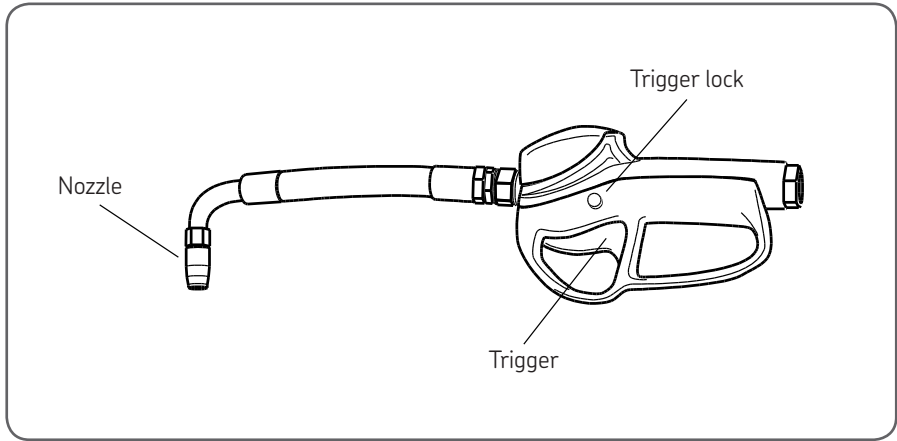

Fig 27 Dispensing reel faucet
5. Hold the trigger in position and press the red button on the side of the gun to lock the trigger into the “dispense” position. See figure 27.